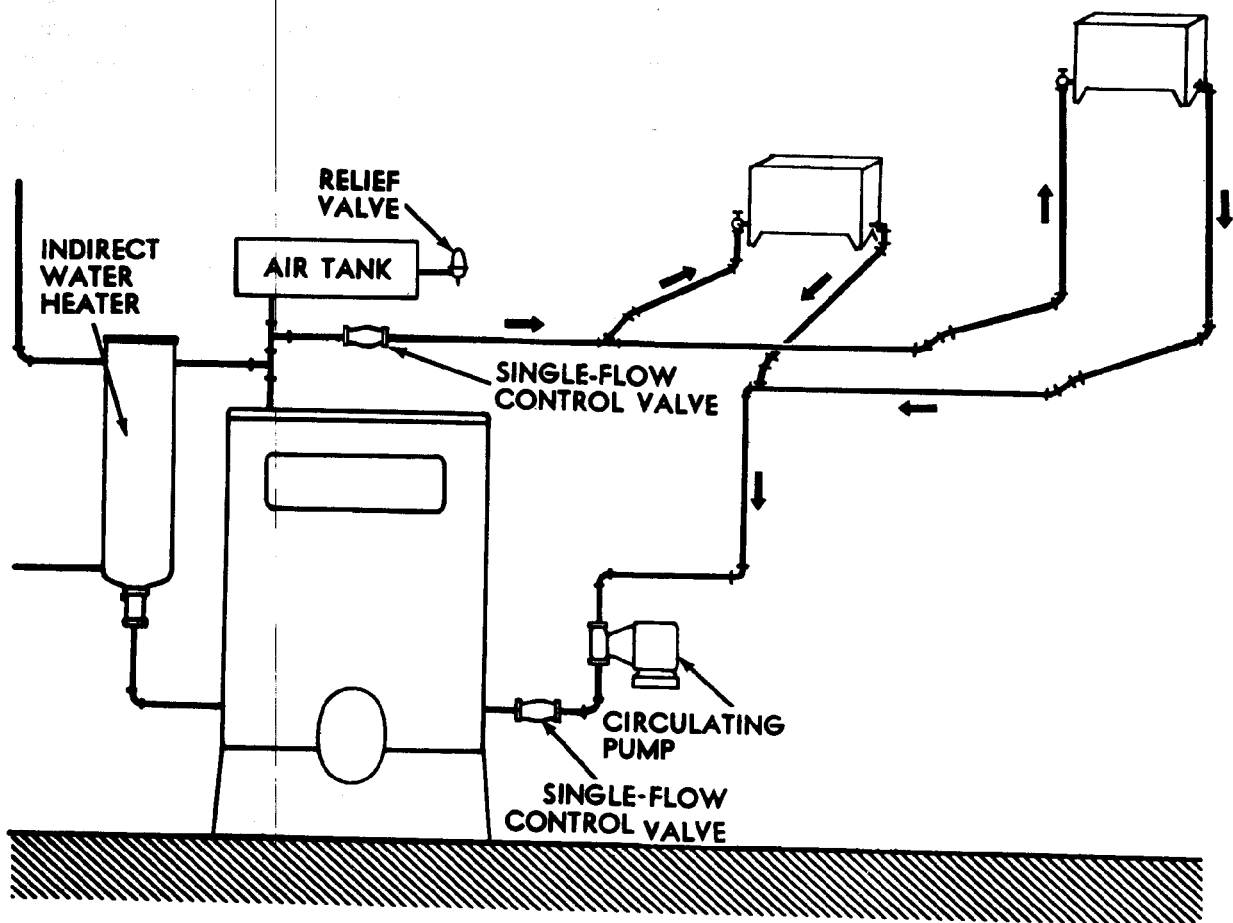

Figure 4-12. Closed two-pipe forced-circulation system.
(1) *Closed two-pipe forced-circulation system.* The general arrangement of pipe and radiators for two-pipe forced-circulation systems is the same as for two-pipe gravity systems. The relative locations of circulating pump, compression tank, and flow control valve are shown in figure 4-12.